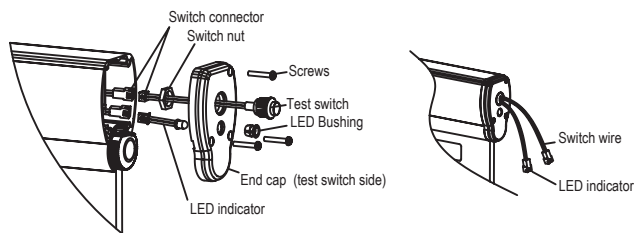

Fig. 3
3. Snap LED bushing on the trim plate, assemble test switch and LED indicator on the trim plate. (Fig. 3)